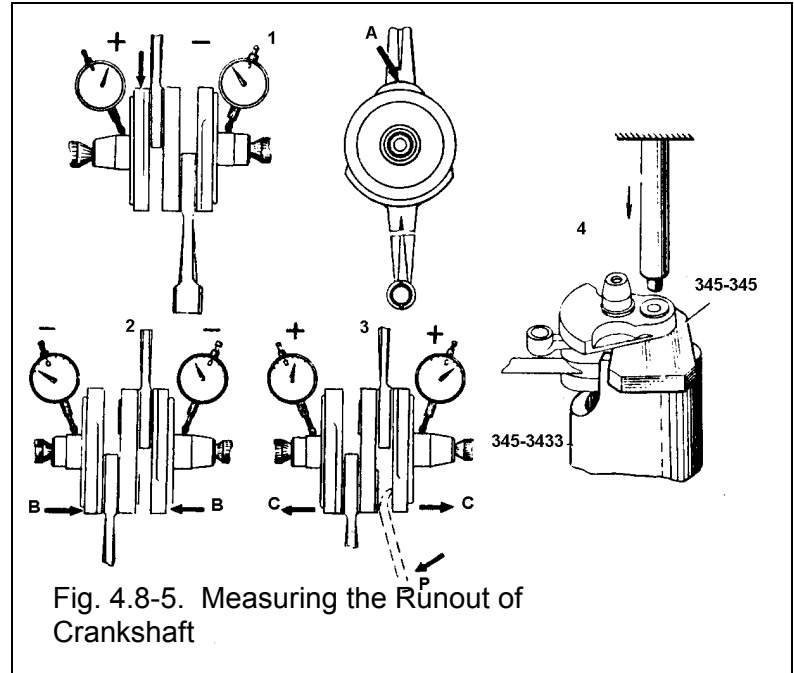

Fig. 4.8-5. Measuring the Runout of Crankshaft
0.05 mm. (Fig. 4.8-5) Should the actual runout exceed this value, the crankshaft must either be straightened or replaced.
The pointers of both indicators should deviate in the same sense, i. e. positive or negative (Fig. 4.8-5, 2 and 3). If the indicator pointers read different values (Fig. 4.8-5, 1), then determine the peak point on the crankshaft main journal (1 - left-hand journal), and, by clamping the crankshaft cheek in the vice, knock slightly against the left-hand journal (arrow A, 1).